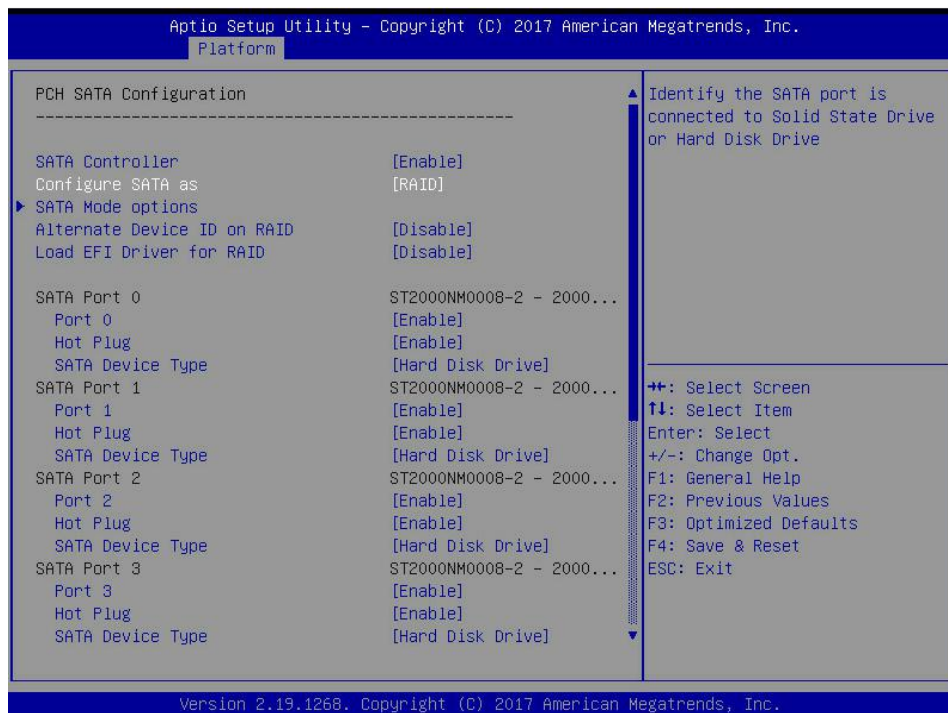

Fig. 6.14
- Enter the interface shown in Fig. 6.14, select Configure SATA As, press Enter, and select the working mode of RSTe onboard soft RAID.